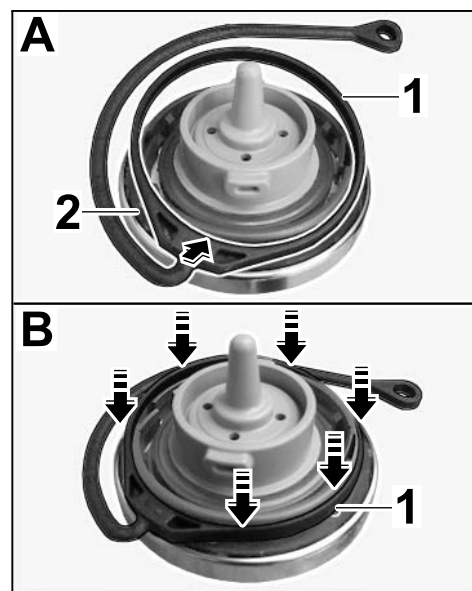

Figure 4
2.1 Fit clamping ring into the groove on the Aluminum Look fuel tank cap as shown (⇒ *Figure 4-A, arrow-*).
2.2 Press clamping ring down into the groove with your thumbs (⇒ *Figure 4-B, arrows-*).